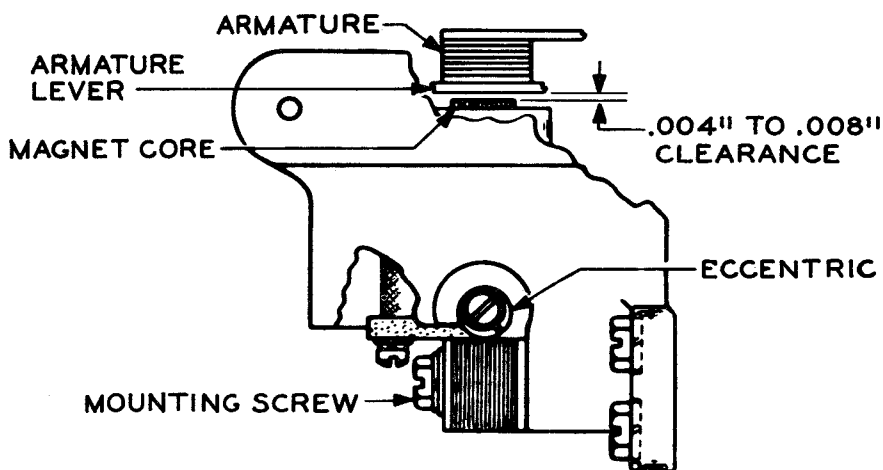

Figure 20
2.40 Punch-magnet Core: There should be clearance as specified in the figure between the magnet cores and the armature lever. See Figure 20.